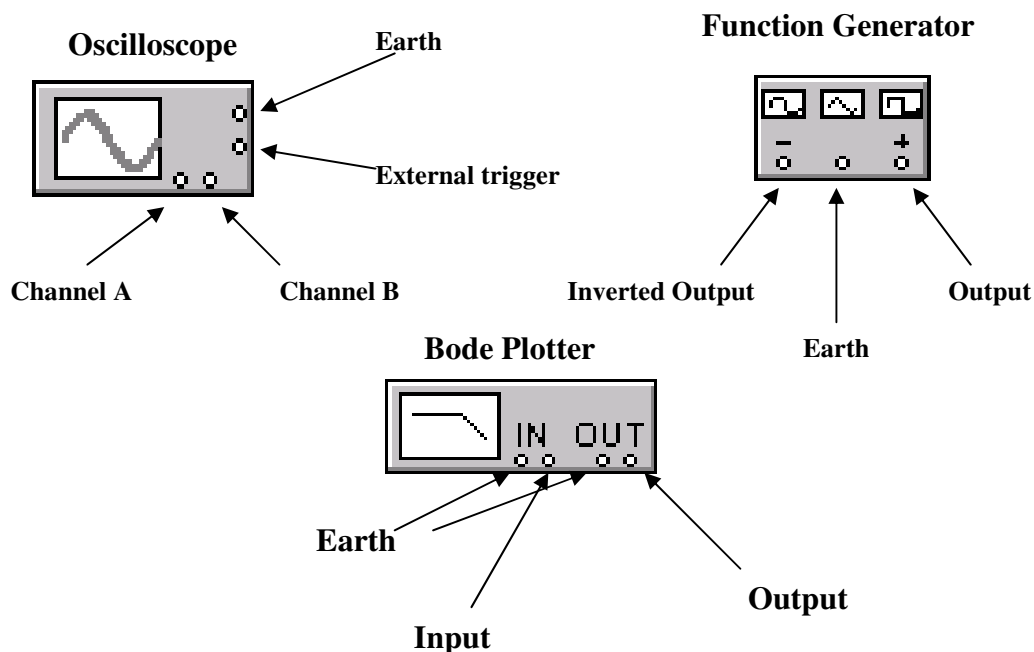

Figure 2 Instruments
- The function generator can be selected from Instruments section of the Parts Bin toolbar and has the connections shown in figure 2.
- The oscilloscope is also from the Instruments section of the Parts Bin and has the connections in figure 2.
The new component is a Bode Plotter (from the Instruments section of the Parts Bin, connections as in figure 2). This is a convenience that exists only within simulators, but has similarities to a spectrum analyser. It generates a range of frequencies at the input connection and plots the ratio of the output signal to the input signal as a function of the frequency. Double click the Bode Plotter to choose the frequency range to study and start the simulator (remember to press the "ON" button). Note that you have a vertical cursor, which you can drag from the left of the Bode plotter results screen.